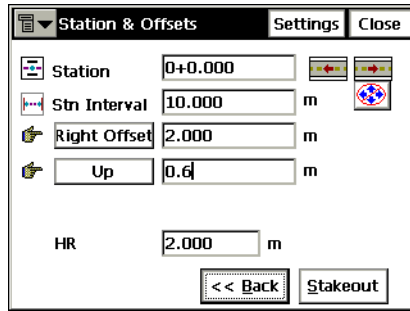

Figure 7-32. Station and Offset
3. In the *Station & Offsets* screen (Figure 7-32 on page 7-22) set the station along the spiral being staked, the station staking interval, the right or left offset of the stakeout point with respect to the spiral, the Up or Down Height offset, the height and the type of the antenna height (GPS mode), or the height of the rod (target) (TS mode).